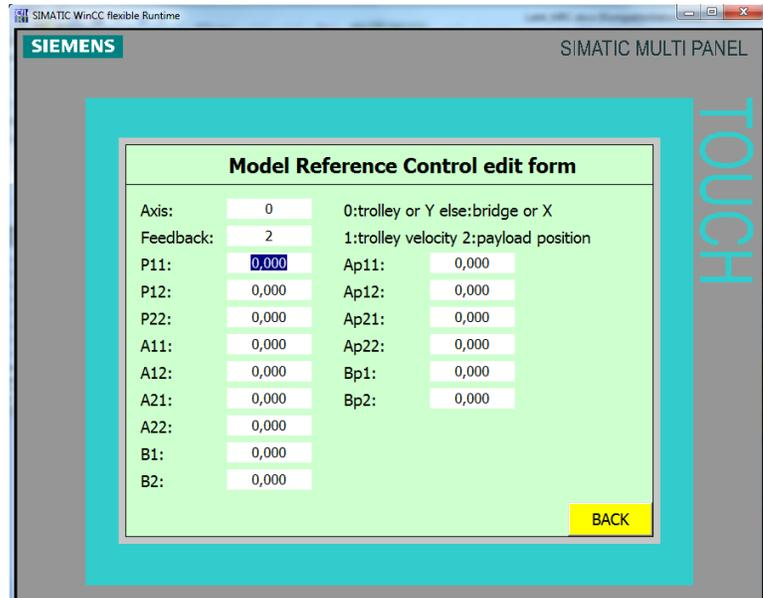

Figure 10: Model reference inputs
- c. “Axis” controls the bridge or trolley axis direction. Make sure to use only the trolley axis. See figure 10.